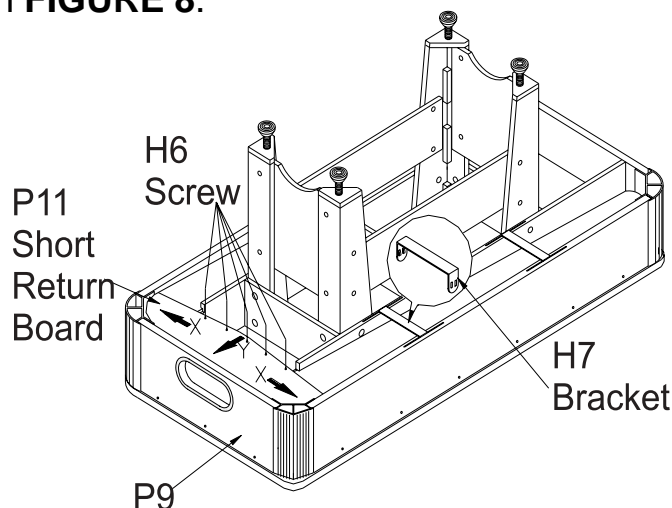

Figure 8
16. Bend the short return board **P11** by hand and insert into the groves of both apron side panels **P7A** and **P7B** by sliding first in the direction noted by an "X" as shown in **FIGURE 8**. Next slide the board in the direction noted by the letter "Y" into the groove on the apron ball return panel **P9**.
17. Attach the short return board **P11** using screws **H6** as shown in **FIGURE 8**.
18. Position the metal brackets **H7** as shown and tap down into place with a hammer as shown in **FIGURE 8**.